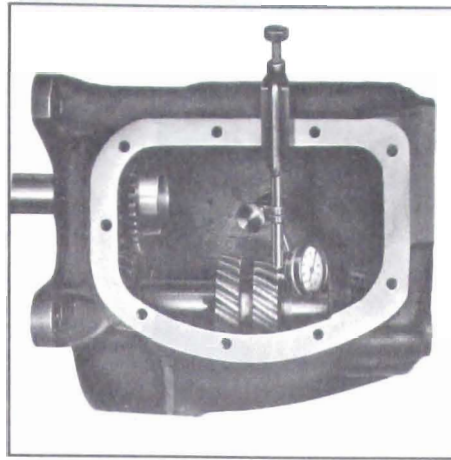

Figure 4-40—Checking Countergear End Play
7. Attach a dial indicator as shown in Figure 4-40, and check the end play of the countergear. End play must not be more than .025".